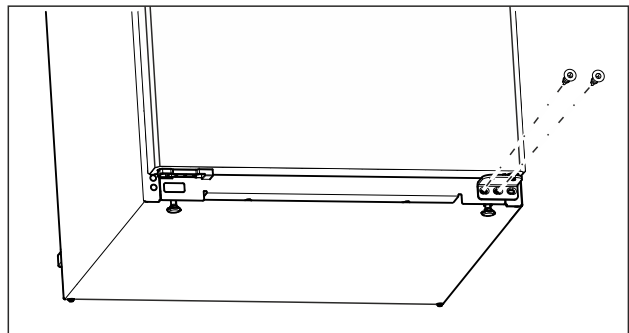

Fig. 10
- ▶ Unscrew the middle screw on the lower swap bearing block with a Torx 20 screwdriver. (see Fig. 10)
- ▶ Unscrew the inner screw on the lower swap bearing block with a Torx 20 screwdriver. (see Fig. 10)